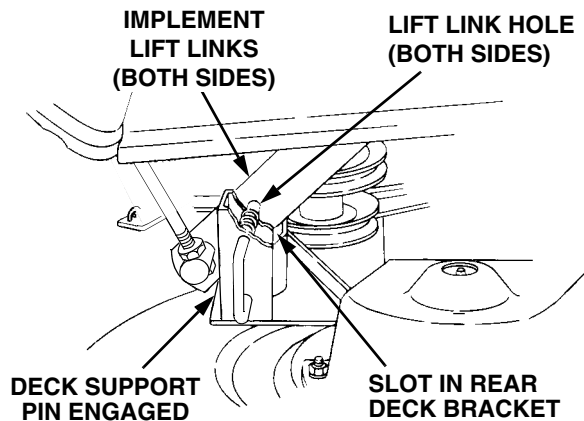

Figure 48
- Carefully guide the tractor implement lift links (left and right) into the rear deck bracket slots (left and right) as the tractor implement lift handle is lowered to its lowest setting (Refer to Figure 48).
- Pull both deck support pins outward and rotate rearward to disengage the outer surface to the rear deck brackets. Release the pins, making certain each deck support pin passes through the inner hole of the rear deck bracket. The spring tension will push the pins inward and, if aligned, through the hole in each implement lift link (See Figure 48).